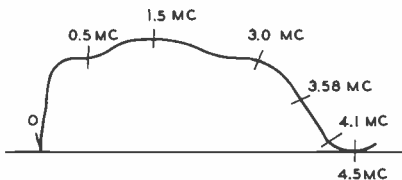

FIG. 7. Response showing 20-dB roll-off from 3.0 to 4.1 mc.
3.0 to 4.1 mc as shown in the curve of Fig. 7. The first video stage in the receiver is a peaking stage, Fig. 8, with a 20-db rising characteristic from 3.0 to 4.1 mc to complement this roll-off. A signal amplitude of about 16 volts peak-to-peak, sync negative, is needed to obtain adequate contrast. Because of these conditions, a video preamplifier that will drive the receiver properly must provide the same amplitude and delay characteristics as the picture i-f in order to provide proper color reproduction and registration. Two video amplifier circuits will be shown.